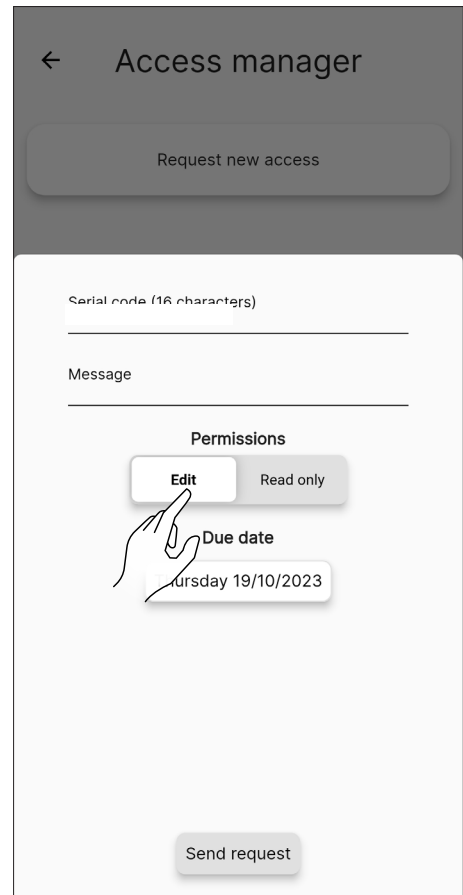

Fig. 8.30
- in “Permission” (Fig. 8.30) select: